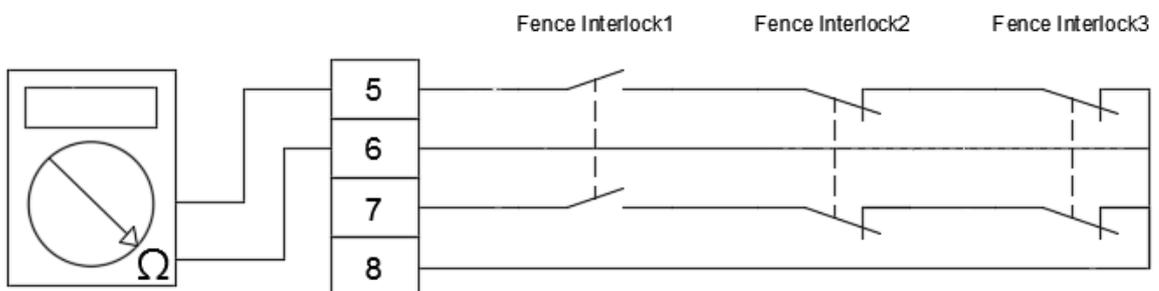

Figure 8.21 Turn on fence safety signal and measure Pin 5 and Pin 6
6. Measure Pin 5 and Pin 6 of the safety connector; the reading on the multimeter must be ∞ , as shown in Figure 8.21 below.